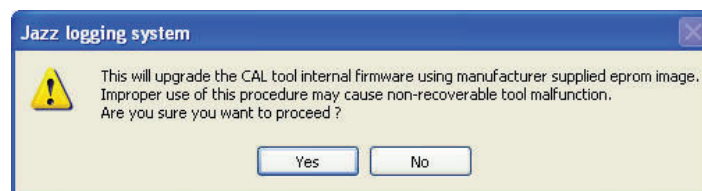

Figure 6-5 Warning Message during firmware upload
2. ☐ The following message will appear (Figure 6-5). Click **Yes** to validate your choice.